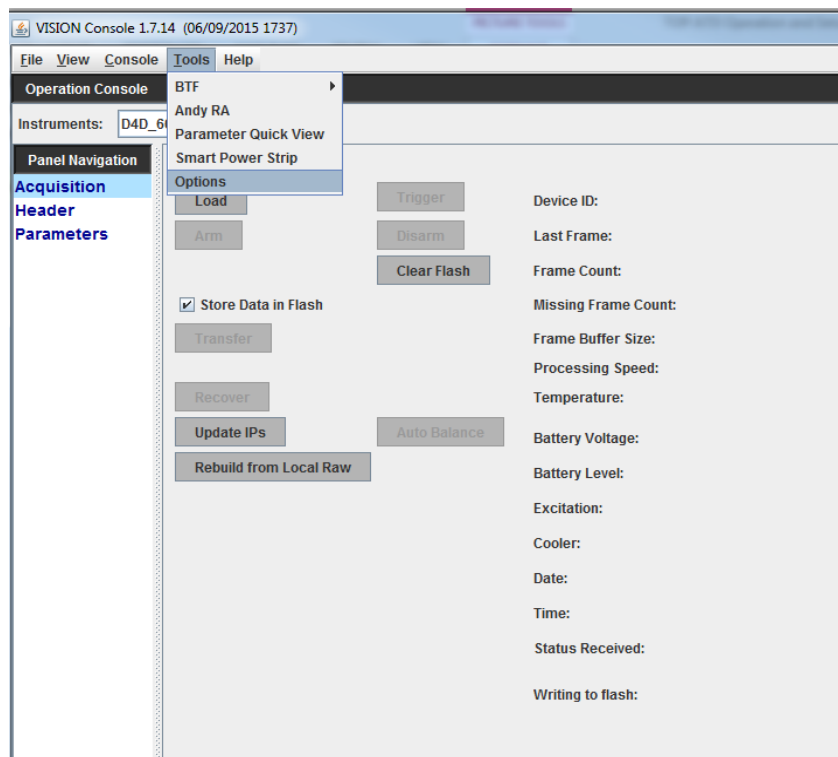

Figure 9. Console operations.
b. Once the console loads, the user will have to set the total number channels. This is accomplished by taking the total number of D4D boxes and multiplying that by 60. This will give you the total number of channels being used. The absolute maximum number of channels that is allowed per PC is 240 channels, which equates to 4 D4D boxes. To set the console for the correct total number of channels, select tools and then options (Figure 9). Next, scroll down to the miscellaneous section and change the max number of channels to the number that was previously calculated (Figure 10). Click save changes and restart the console following the above steps.